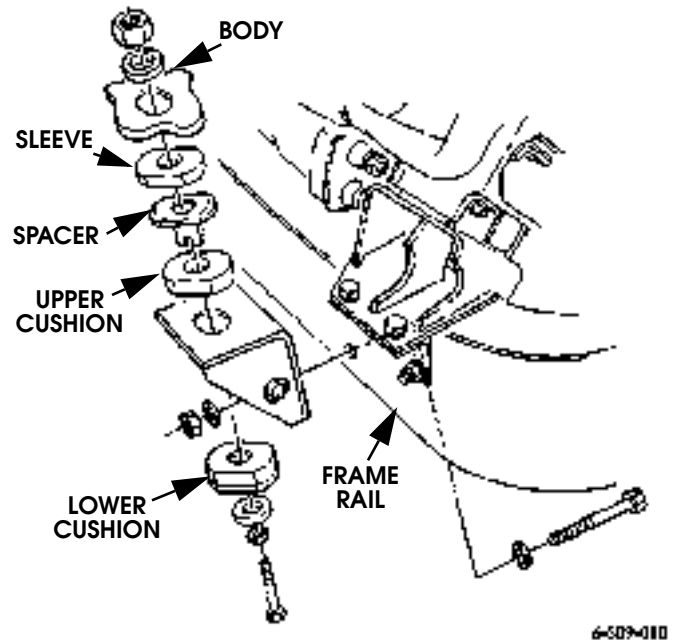

Figure 9-132: Right Front Body Mount Bracket Replacement
2. Remove three locknuts, washers, bolts, washers, and right front body mount bracket from frame rail (Figure 9-132).
1. Install right front body mount bracket on frame rail with three washers, bolts, washers, and locknuts. Tighten locknuts to 90 lb-ft (122 N•m) (Figure 9-132).